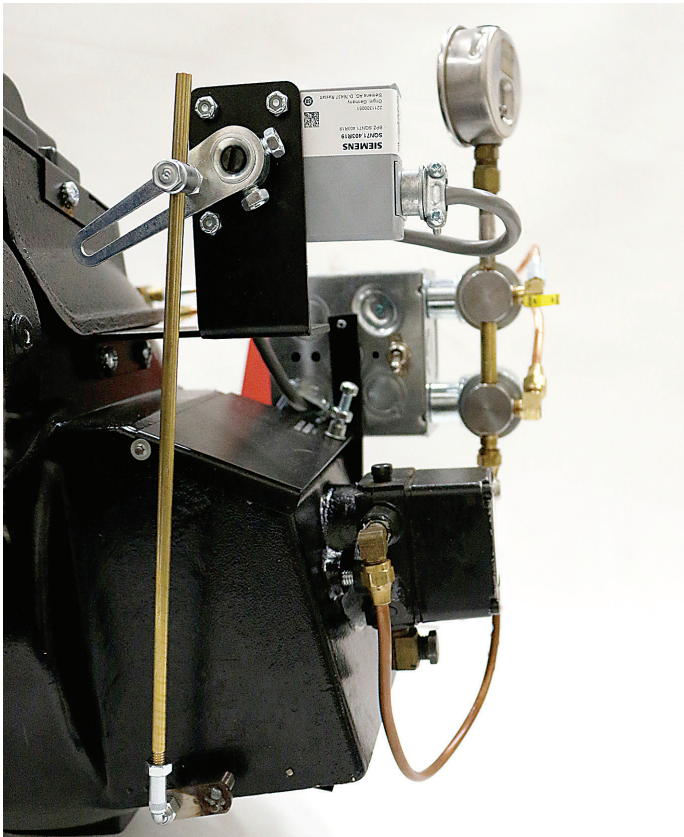

FIG. 3
- 8 Remove existing linkage and replace with the new linkage assembly (51541S) provided. Ensure that the slide linkage portion (connected to damper motor) is installed tightly to the Siemens motor on the shaft (See Figs. 3 and 4). Disengage pin ① (see SQN71 Reference Guide on page 5) so motor shaft moves freely. Ensure that when the air shutter is fully open that the red cam ④ is at 90% on the damper positioning scale ③. If not, use the 7/16" bolt on the shaft to adjust. Ensure that the air shutter is fully closed when the blue cam ⑤ is at 0% on the damper positioning scale ③.